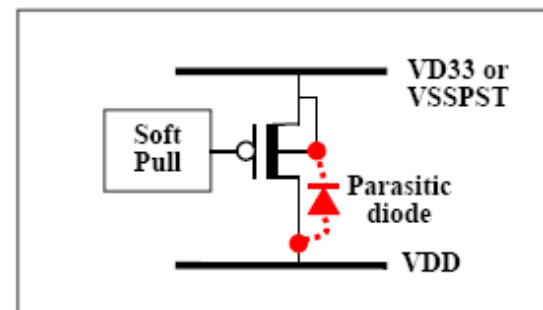

Fig. 3 Parasitic diode between core and I/O power rails
- I/O power rail (VD33) as shown in Fig.3 the diode in red, if the core (lower) voltage is powered up earlier than the I/O (higher) voltage without care, there will be current flowing through the parasitic diode that may trigger latch-up.